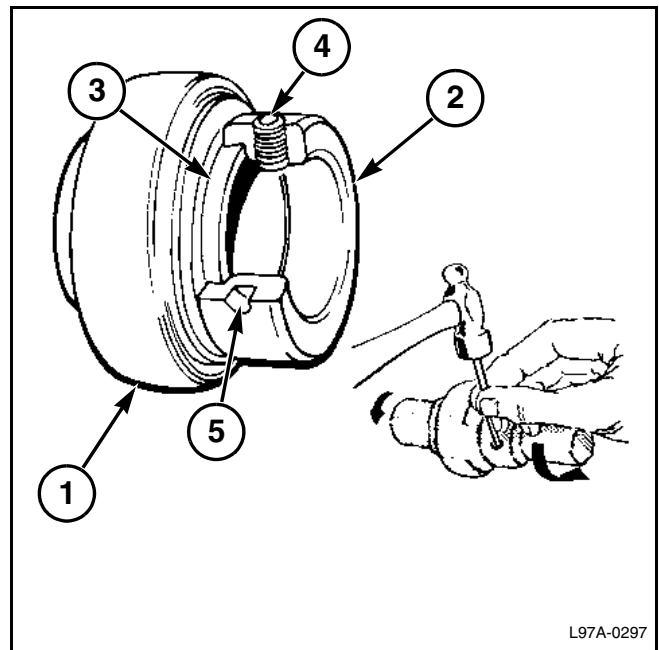

FIG. 43
FIG. 43: The bearing (1) is held in position on the shaft by a locking collar (2). The locking collar has an eccentric counterbore. This counterbore engages the eccentric end of the bearing inner race (3) when the bearing is assembled. The locking collar is rotated on the bearing to lock the assembly on the shaft. The assembly grips the shaft tightly with a positive locking action that increases with use. A set screw (4) in the locking collar applies additional locking pressure. A drift punch (5) is used to rotate the locking collar.